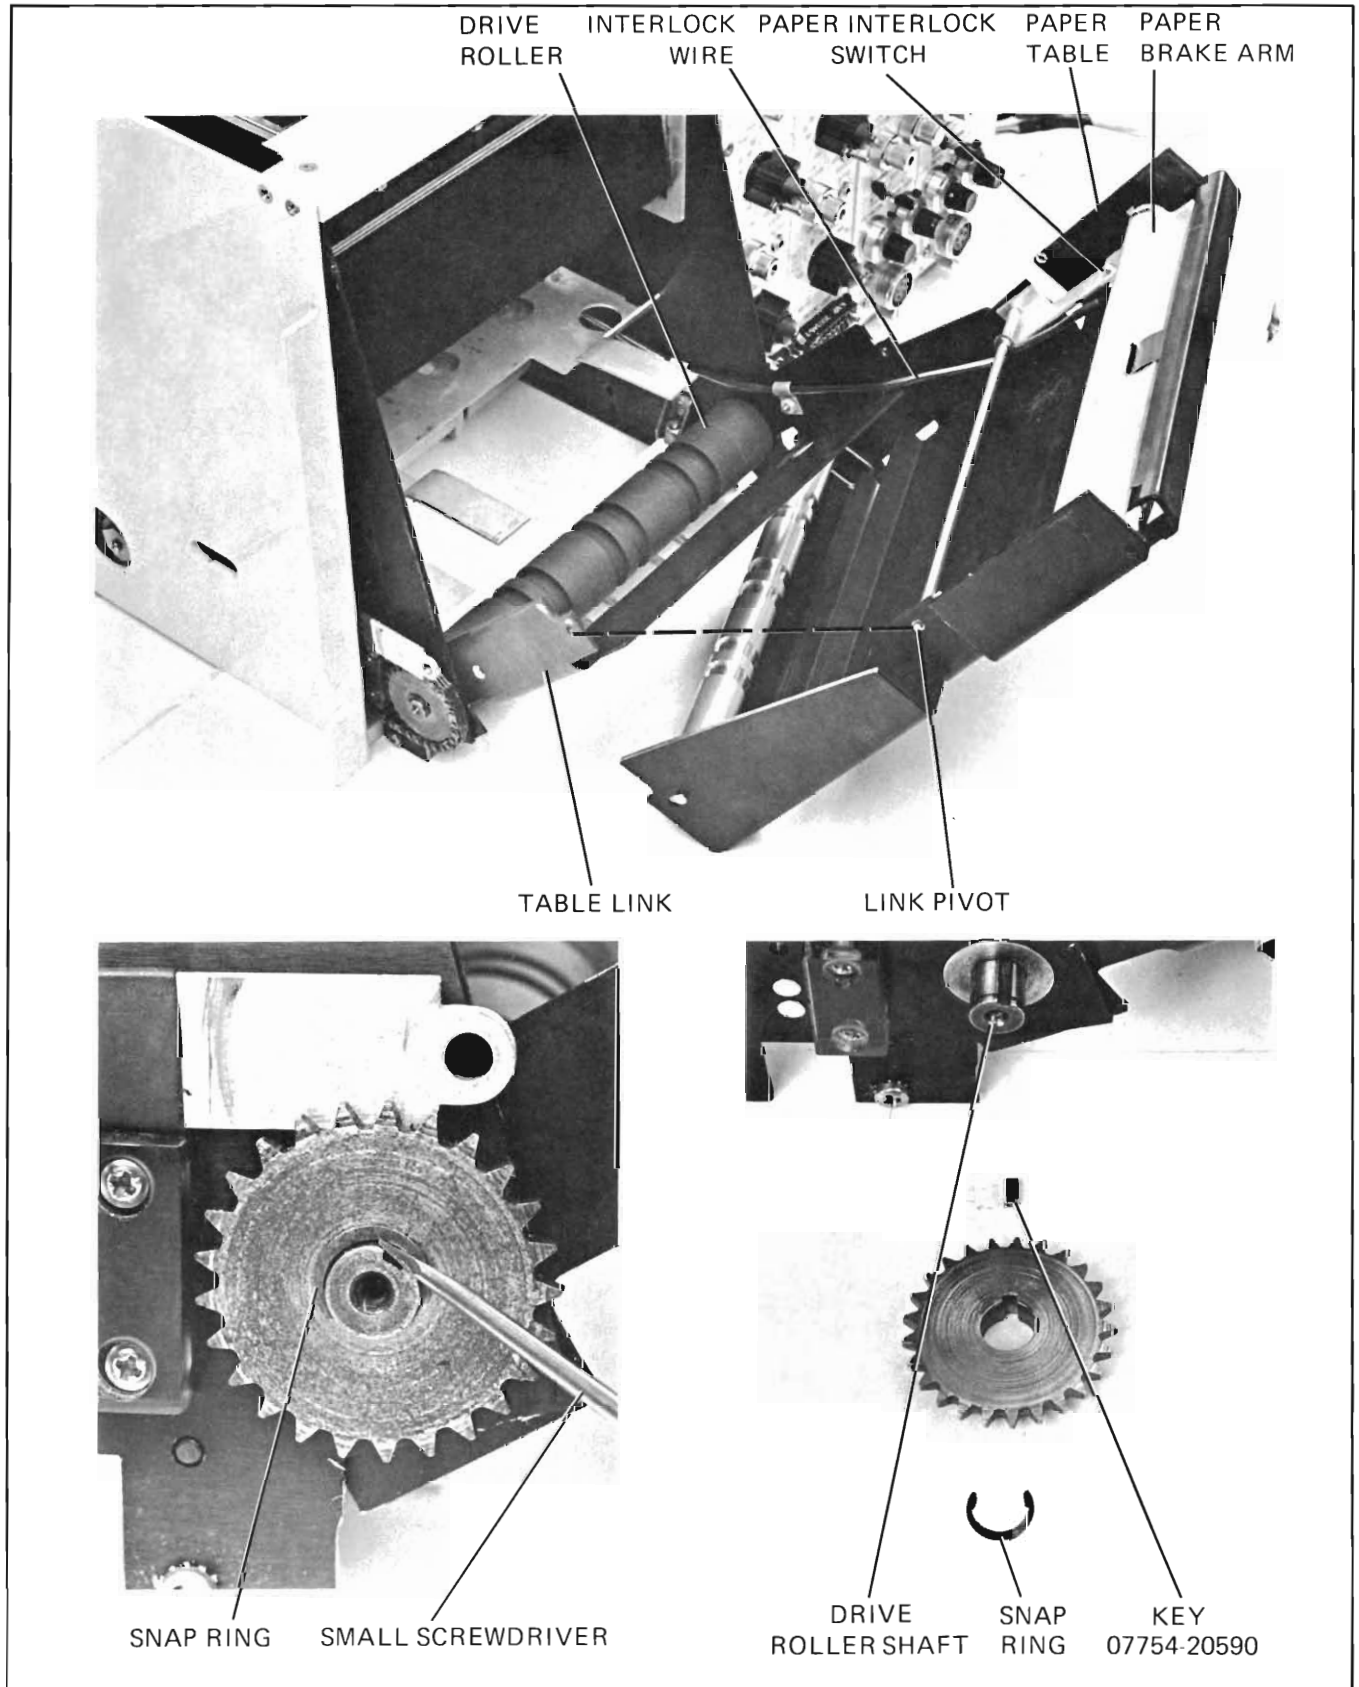

Figure 5-14. Drive Roller and Table Link Removal (Part 1)
- g. Using small, flat-blade screwdriver, pry off snap ring holding sprocket to drive roller shaft (Figure 5-14). *Pry only at center of C-shaped ring*, as shown, using keyway for access to ring.